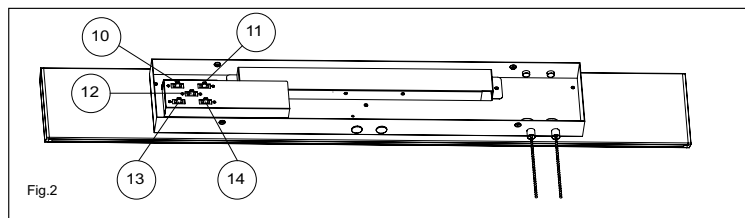

Fig.2
- Adjust CCT switch (10) according to the desired color temperature 4000K, 3500K, 3000K, it is used to control the color temperature of the top lamp. (in figure.2)
- Adjust Power switch(11) according to the desired power 30W, 20W,10W, it is used to control the color temperature of the top lamp. (in figure.2).
- Adjust CCT switch (12) according to the desired color temperature 4000K, 3500K, 3000K, it is used to control the color temperature of the mid lamp. (in figure.2).
- Adjust CCT switch (13) according to the desired color temperature 4000K, 3500K, 3000K, it is used to control the color temperature of the bottom lamp. (in figure.2).
- Adjust Power switch(14) according to the desired power 30W, 20W,10W, it is used to control the color temperature of the bottom lamp. (in figure.2).